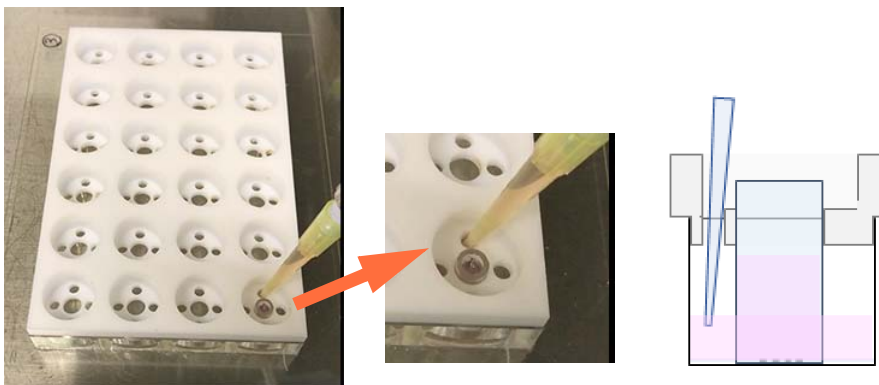

Figure 2-6. Add culture-medium to the well through one of the side holes.
6. Add culture medium to the wells through one of the side-holes (Figure 2-6).